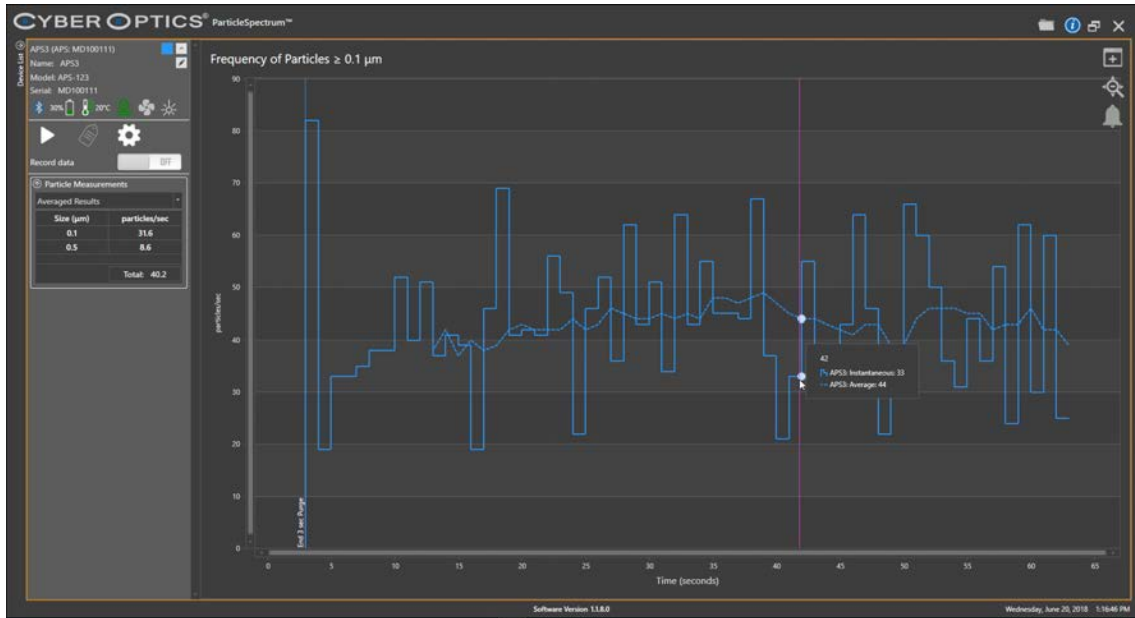

Figure 3.3: Reading the ParticleSpectrum Display
3. Start the ParticleSpectrum application. The ParticleSpectrum window appears, as shown in Figure 3.3 on page 3.5.